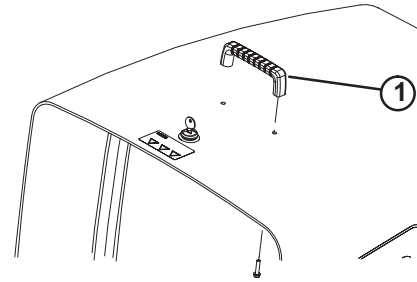

Figure 3
1. Mount handle to top of hood with (2) screws (Fig. 3).